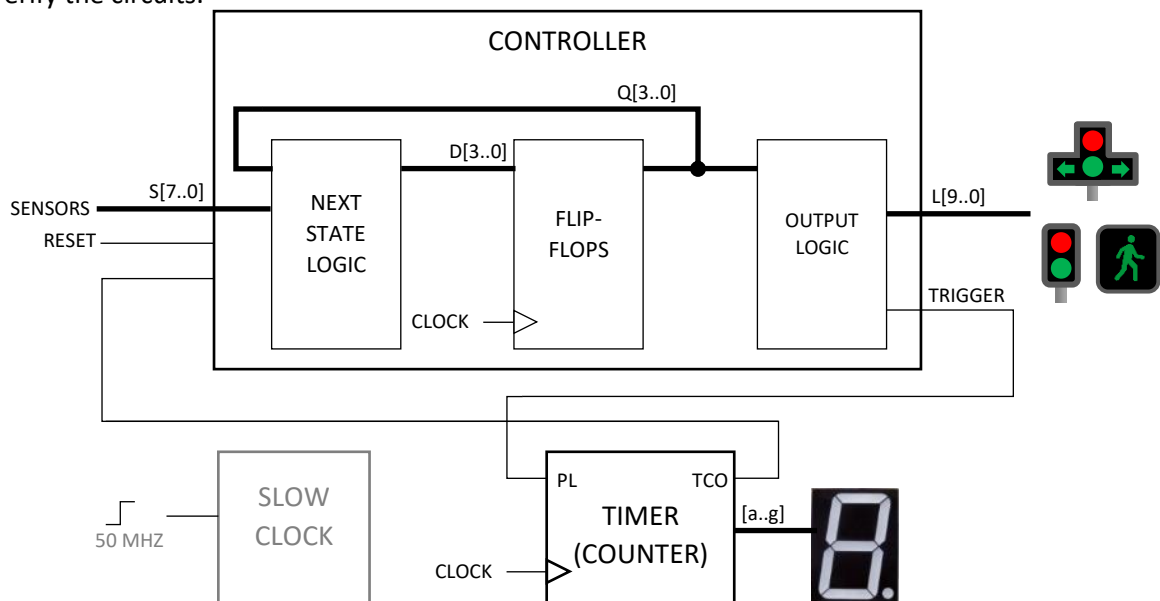

Figure W3.1
1	Referring to Figure W3.1, build the timer circuit as a separate module. The module should have one clock input, one parallel load input pin (PL), one terminal count output pin (TCO) and seven output to be connected to the 7-segment display. Then, create a symbol file from the timer circuit. Note that the design is similar to the week 1 timer circuit but without the terminal count circuit.